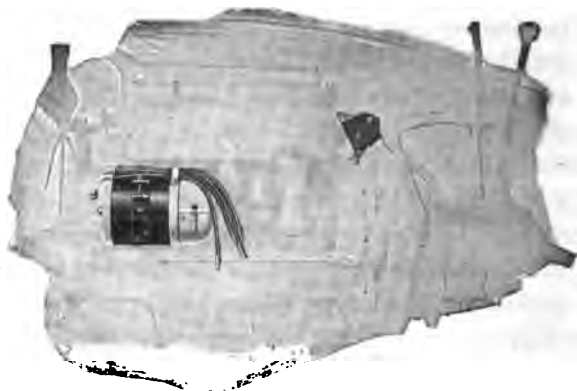

Fig. 298. North East Dynamotor with Silent-Chain Drive. Starting Switch Shown at Right
**Dynamotor.** The dynamotor is of the four-pole type, with both windings connected to the same commutator. It is designed for installation either with silent-chain drive—as on the Dodge, Fig. 298, in which case the drive is direct either as a generator or as a motor—or with a special reducing gear and clutch for driving from the pump or magneto shaft of the engine. In the latter type, the starting switch is mounted on the gear housing, which is integral with